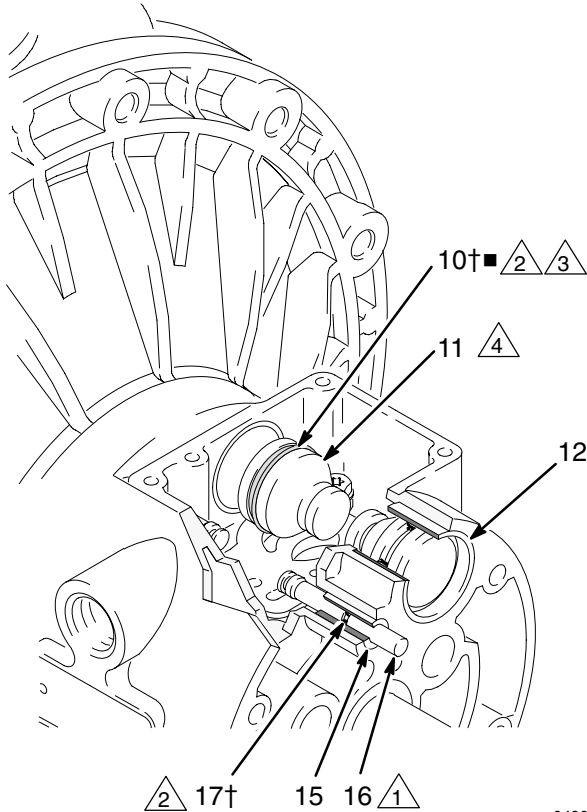

Fig. 9
4. Pull the two actuator pistons (11) out of the bearings (12). Remove the u-cup packings (10) from the pistons. Pull the pilot pins (16) out of the bearings (15). Remove the o-rings (17) from the pilot pins. See Fig. 9.
6. Inspect the bearings (12, 15) in place. See Fig. 9. The bearings are tapered and, if damaged, must be removed from the outside. This requires disassembly of the fluid section. See page 23.
4. Install an o-ring (17†■) on each pilot pin (16). Grease the pins and o-rings. Insert the pins into the bearings (15), **narrow** end first. See Fig. 9.
5. Install a u-cup packing (10†■) on each actuator piston (11), so the lips of the packings face the **narrow** end of the pistons. See Fig. 9.
6. Lubricate the u-cup packings (10†■) and actuator pistons (11). Insert the actuator pistons in the bearings (12), **wide** end first. Leave the narrow end of the pistons exposed. See Fig. 9.